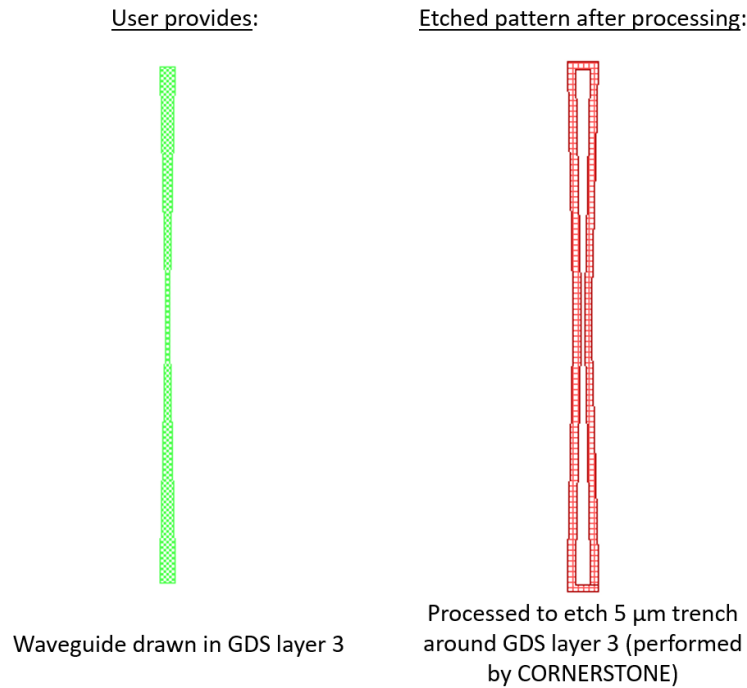

Figure 1 - Description of GDS Layer 3 processing.
**GDS Layer 3:** Drawn objects on this layer will be protected from the silicon etch. Users should draw the waveguides and any other features to remain following 300 nm silicon etching. During fracturing processing, this will be translated into a pattern that defines 5  $\mu\text{m}$  wide trenches on either side of the waveguides drawn in GDS layer 3 (see Figure 1).